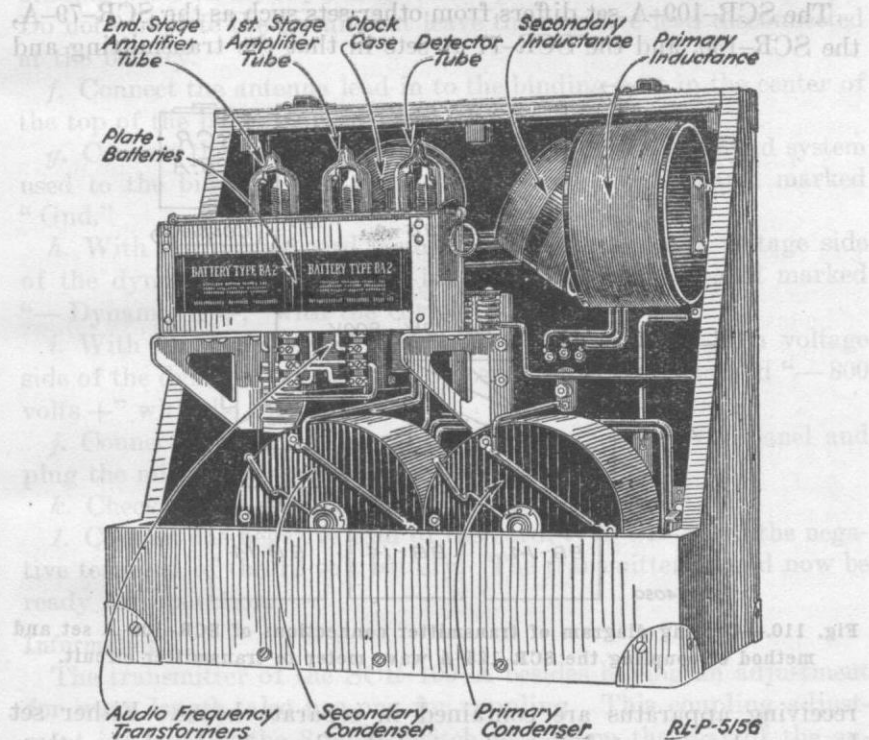

Fig. 109.—Rear of BC-98-A receiver panel.
3. Release the two latches at the top of the BC-98-A set box and remove the back. This leaves the back of the panel and attached part exposed to view. (See Fig. 109.) Turn the various controls and the parts on the rear of the panel that move. Check wiring diagram as far as possible.